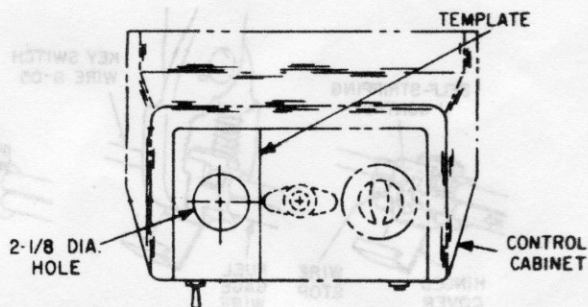

Figure 3
3. Place the supplied template just inside the raised edge of the top surface of the control cabinet as shown in Figure 3.